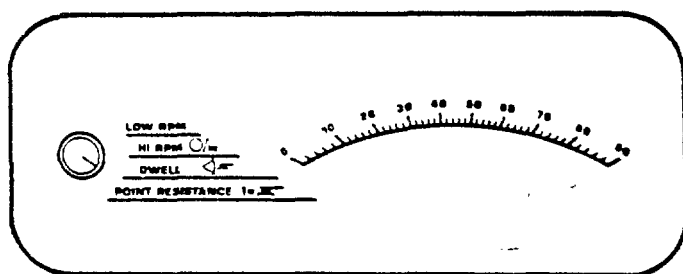

FIGURE 4 - TEST SELECTOR AT DWELL POSITION
(1) Turn the test selector to the DWELL position (See Figure 4).
(2) Turn the cylinder selector to the appropriate position for your engine.
(3) Start engine, let idle while observing the meter.
(2) Briefly increase engine RPM to approximately 1500, while observing the meter and note the change in dwell from the value at idle.